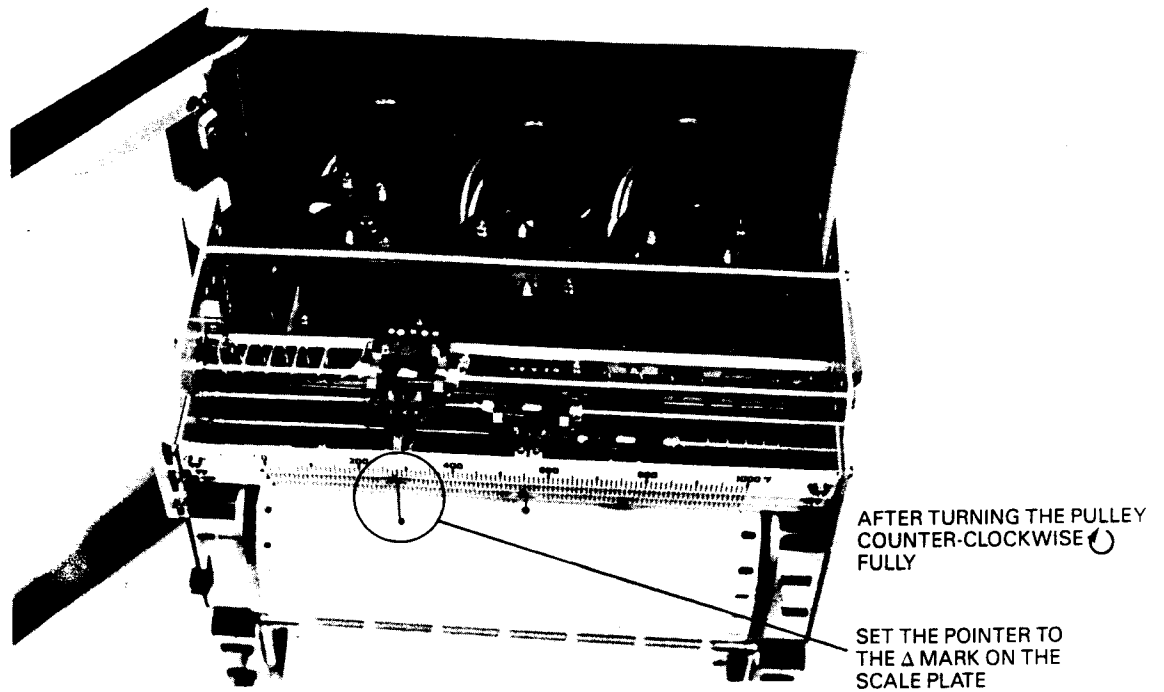

Figure 4-4. Pen Carriage Alignment
4.3.2 Pen Carriage Alignment (See Figure 4-4)